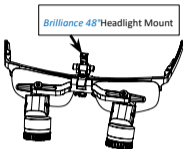

Fig.7
*Brilliance™ 48°* is attached with Headlight mount which has dovetail joint inside, see Fig.7: